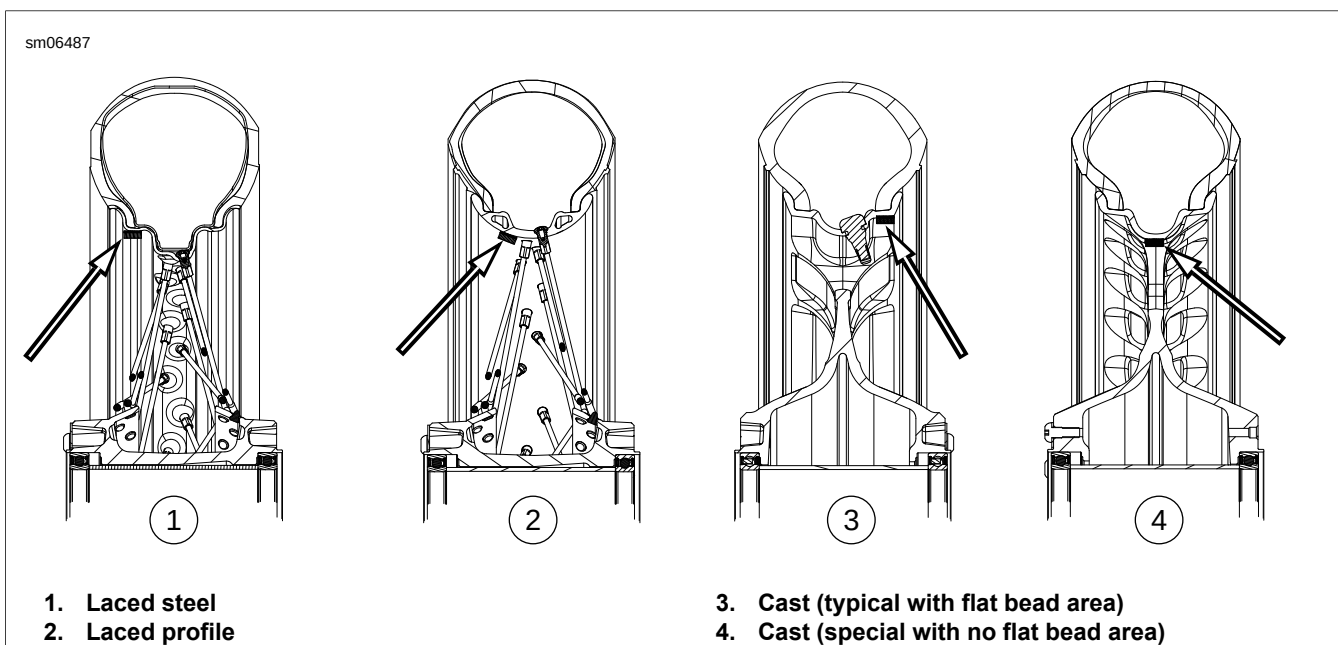

Figure 2-38. Wheel Weight Placement
1. See Figure 2-38. Place weights on a smooth surface of the wheel rim such that centrifugal force will help keep them in place. Make sure the area of application is completely clean, dry, and free of oil and grease.